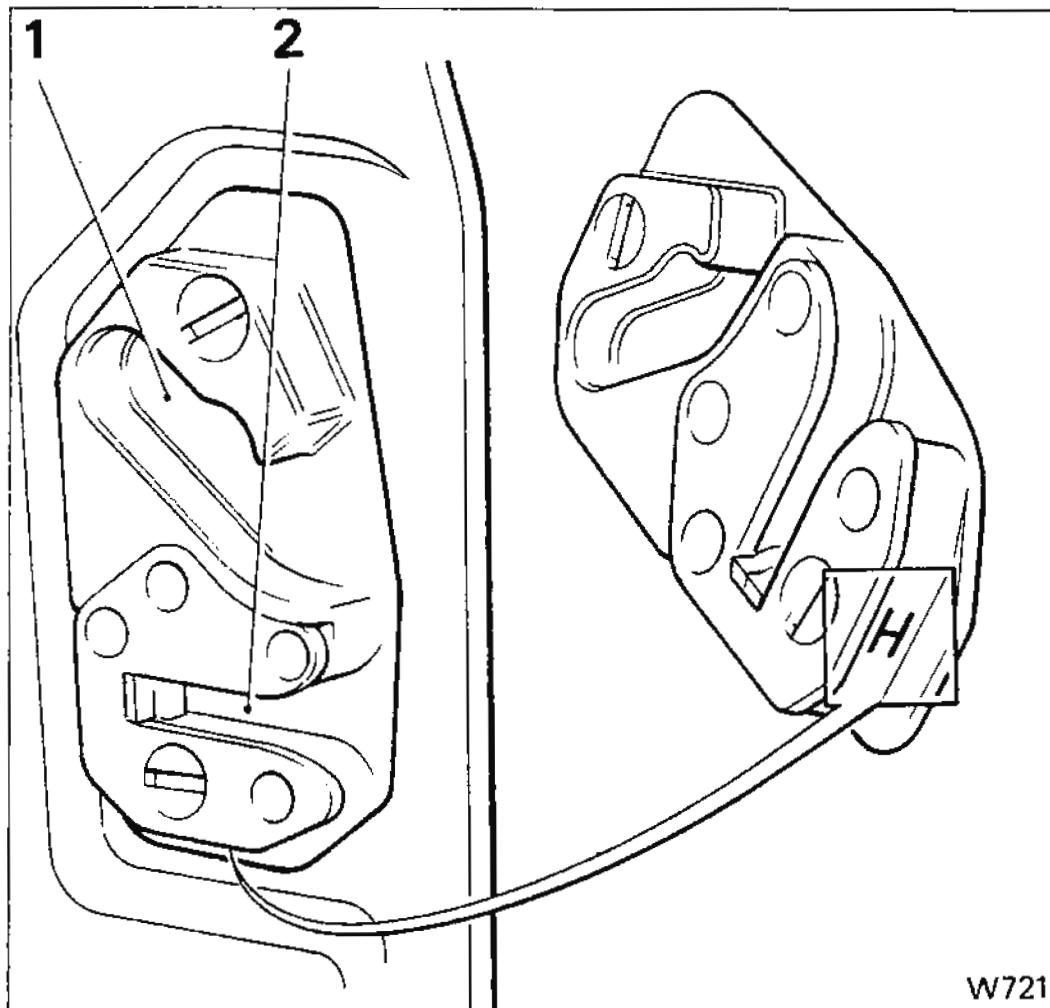

Fig. 1
1. Door striker plate (see fig. 1)
The striker plate should be replaced by one which has improved vertical location for the door. These are identified by the letter 'H' stamped on the bottom edge (see fig.1).
The lock bolt roller channel of the striker plate (see fig. 1, item 1) has two functions. Firstly it controls the safety catch and fully closed position of the door. Secondly it controls the amount the door is set in or out in relation to the rear doors or rear wing; these adjustments are controlled by moving the top half of the striker plate only. The channel in which the dove tail wedge on the door locates (see fig. 1, item 2), controls the amount of overtravel and the vertical location for the door, which is adjusted by movement on the bottom half of the striker plate.